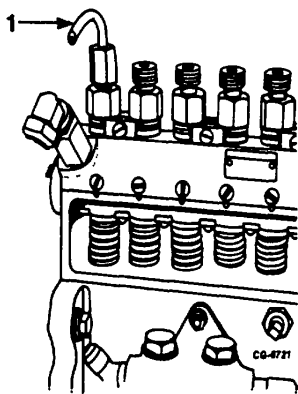

Figure 17. Checking Pump Timing
e. Remove delivery valve needle, and filler from No. 1 pumping element and install drip spout. Make drip spout locally from extra injection line and connector nut. Place a paper cup under drip spout to collect fuel flow from spout (Figure 17).
f. Install adapter hose with small fuel container to fuel inlet and charge pump fuel gallery. (Figure 17).